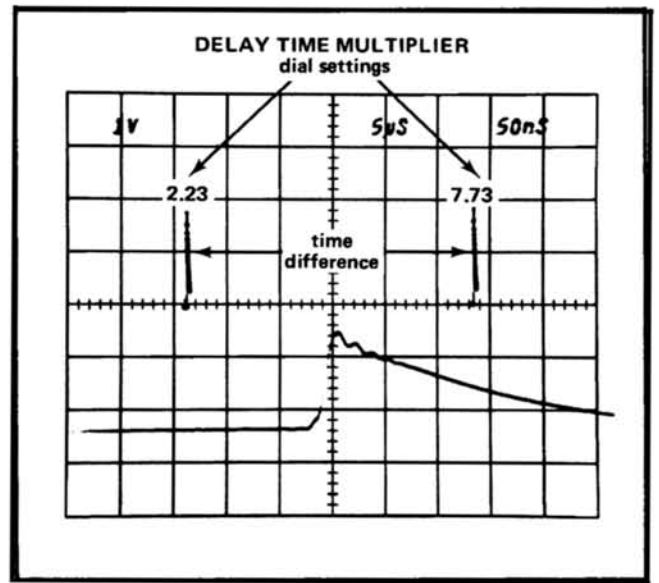

Fig. 2-12. Measuring time difference using delayed sweep.
2. Set the VOLTS/DIV selector to produce a display about three divisions in amplitude (see Fig. 2-12).
5. Set the 7B70 (B) TIME/DIV to a setting 1/100 of the A TIME/DIV sweep rate. This produces an intensified portion about 0.1 division in length.
**Example:** Assume the first dial setting is 2.23 and the second dial setting is 7.73 with the TIME/DIV set to 5  $\mu$ S (see Fig. 2-12).